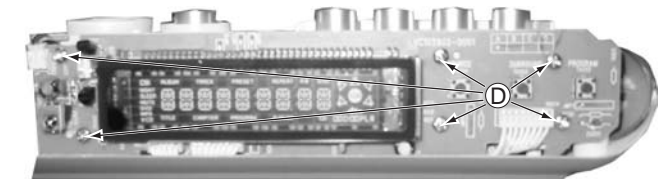

Figure 7
- 2) Loosen 6 screws "D" at the top of the key board 1 as shown in figure 7.